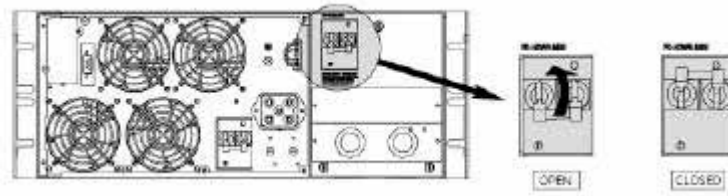

FIG 44 – 6KVA INPUT CIRCUIT BREAKER
5. Switch the INPUT CIRCUIT BREAKER placed on the rear side of the UPS to "ON" position (FIG 44).